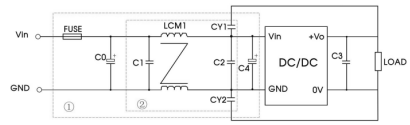

Fig. 3
Notes: We use Part ① in Fig. 3 for Immunity test and part ② for Emissions test. Selecting based on needs.